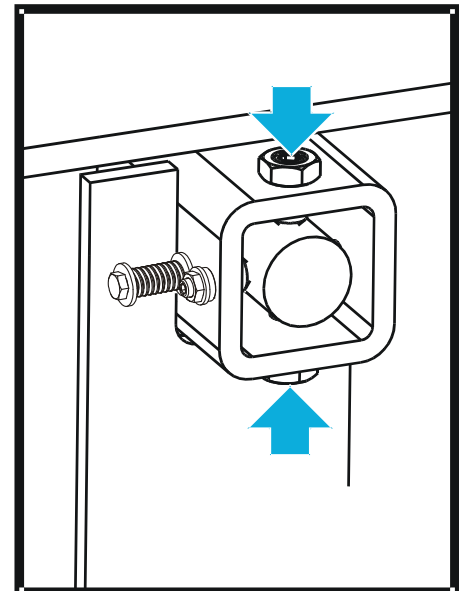

FIG. 3-6
- Remove the tool from the blade and reattach it near the inner blade guide. Measure from the tool to the bed rail at both ends of the tool. If the measurements at the front and rear ends of the tool differ by more than 1/16" (1.5 mm), adjust the vertical tilt of the drive-side blade wheel. See Figure 3-6.
**See Figure 3-6.** To tilt the drive-side blade wheel down, loosen the top adjustment screw, loosen the nut on the bottom adjustment screw and tighten the bottom screw. Tighten the top and bottom nuts.